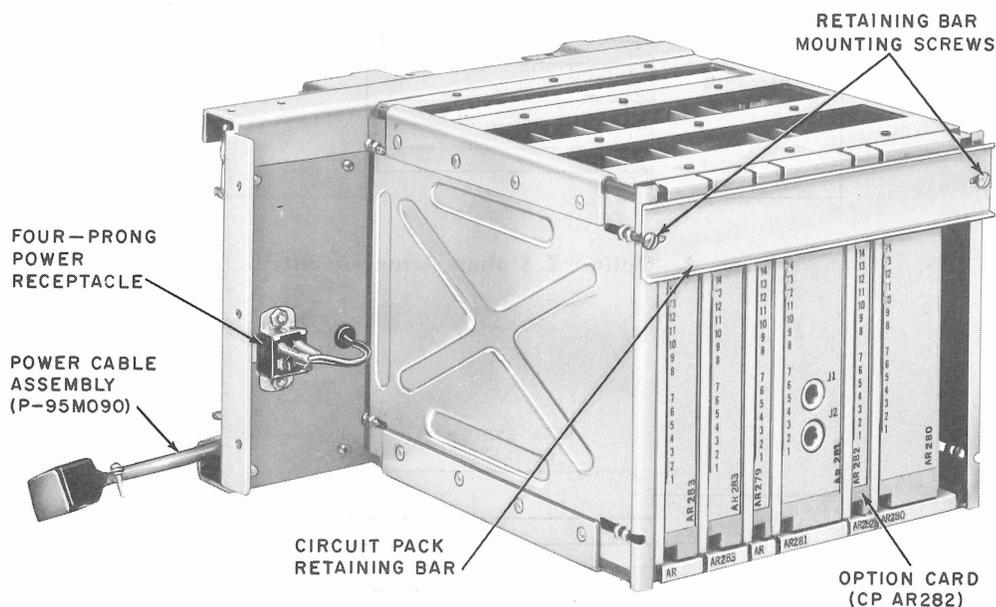

Fig. 1—Data Auxiliary Set 824A1, Front View (Data Auxiliary Set 824A2 is Identical With a 26A Power Unit Attached)
**1.01** This section contains installation and connection information for Data Auxiliary Sets (DAS) 824A1 and 824A2. Refer to Fig. 1 for an illustration of DAS 824A1. Option identification and strapping information are also contained in this section.
- (a) Remove the circuit pack retaining bar by unscrewing the two retaining bar mounting screws which fasten it to the front of the unit (Fig. 1.)